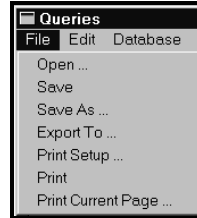

Figure 3-107. QUERY > File Menu
As shown in Figure 3-107, the File menu contains seven (7) choices. They are Open..., Save, Save As..., Export To..., Print Setup..., Print, and Print Current Page.